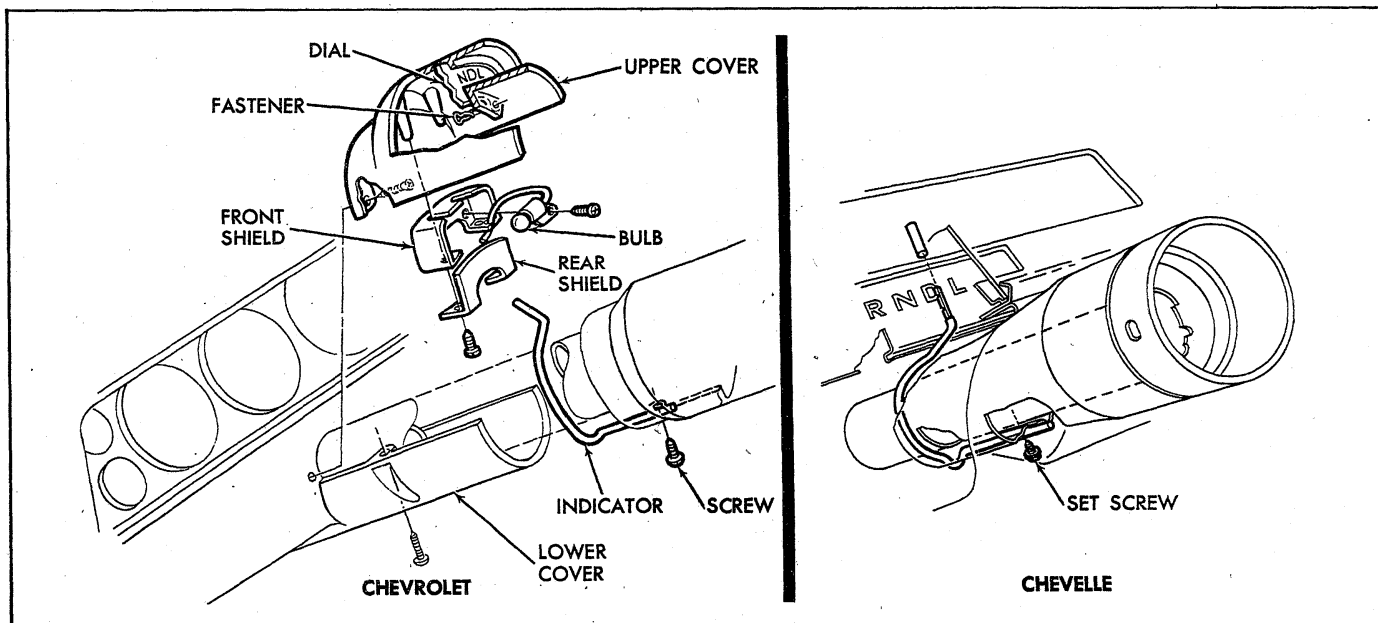

Fig. 15—Powerglide Indicator Connection—Chevrolet and Chevelle
- a. Remove lower mast jacket cover (fig. 15).
- b. If vehicle is equipped with Powerglide, remove indicator pointer wire by removing screw from six o'clock position at bottom of mast jacket (fig. 15). Work indicator wire out of position and remove.
- a. If vehicle is equipped with Powerglide, work shift indicator pointer wire into position on column and secure with screw at six o'clock position at bottom of mast jacket (fig. 15).
- b. Install mast jacket lower cover (fig. 15).
5. Chevrolet and Chevy II only: Remove screws attaching upper and lower mast jacket covers together. On Chevrolet, remove screws attaching lower cover to instrument panel (figs. 15 and 18). Remove lower cover.
6. Chevelle only: Remove screws securing mast jacket trim cover to instrument panel and remove cover (fig. 15).
8. On Chevrolet and Chevelle columns with Powerglide shift levers, loosen set screw at six o'clock position at bottom of column and remove the transmission shift indicator pointer (fig. 15).